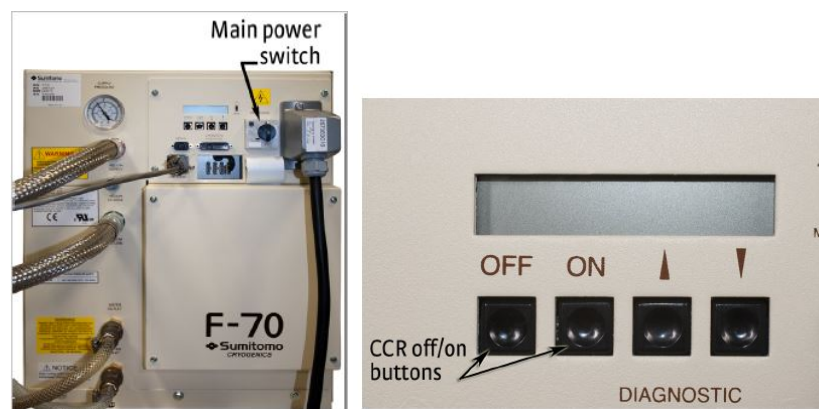

Figure 3. CCR compressor panel and off/on buttons
- The cooling assembly closed cycle refrigerator (CCR) is OFF, as shown in **Figure 3**, as no noise could be heard from the CCR.
- Turn on the CCR by pressing the ON button, as shown in **Figure 3**. Please wait about **5 minutes** after the CCR is turned on to ensure it is running properly without shutting down by itself.